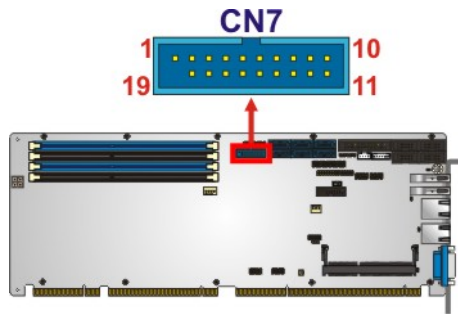

Figure 3-27: USB 3.2 Gen 1 Connector Location
- CN Location:** See **Figure 3-27**